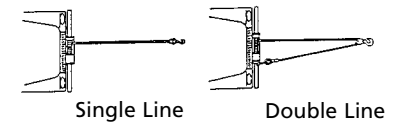

Figure 1
- The S9000 winch is rated at 9,000 pounds (4082 kg) (single line) capacity on the wire rope layer closest to the drum. DO NOT OVERLOAD. DO NOT ATTEMPT PROLONGED PULLS AT HEAVY LOADS. Do not maintain power to the winch if the motor stalls. Overloads can damage the winch and/or the wire rope and create unsafe operating conditions. FOR LOADS OVER 6,000 POUNDS (2721 KG), WE RECOMMEND THE USE OF THE OPTIONAL PULLEY BLOCK TO DOUBLE LINE THE WIRE ROPE (FIGURES 1 & 14). This reduces the load on the winch and the strain on the wire rope by approximately 50%. If attaching back to vehicle, attach to the frame or other load bearing part. **The vehicle engine should be running during winch operation to minimize battery drain and maximize winch power and speed.** If considerable winching is performed with the engine off, the battery may be too weak to restart the engine.